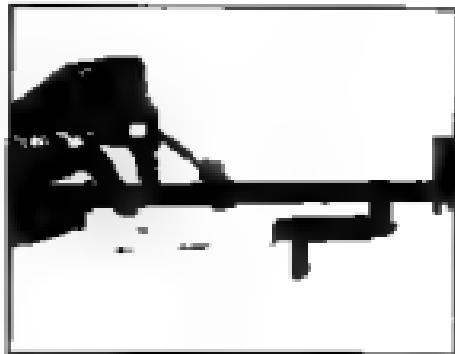

Figure 16
- 7 Clean the gas port and gas block area. (Figure 16) Remove the gas piston from the handguard and gas cylinder assembly and clean thoroughly with solvent. Remove all carbon fouling dry with a clean rag, then apply a light coat of oil. (Gas Port Cleaning tool is normally not included in basic cleaning kits, but is available from SKS parts dealers.)